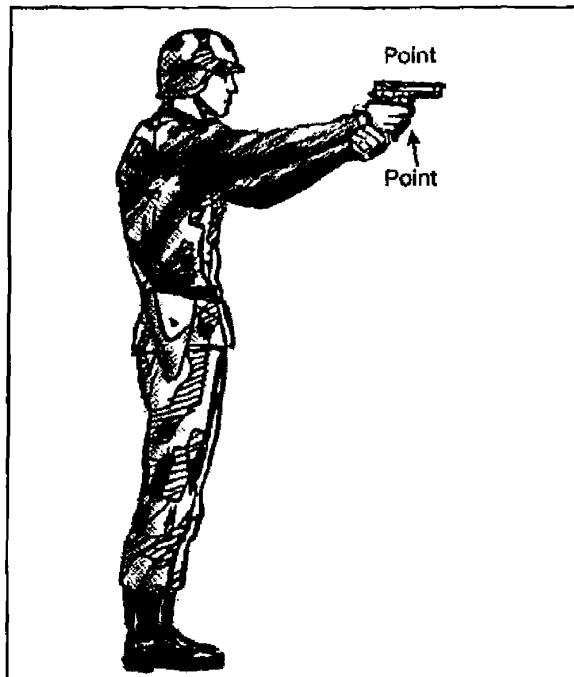

Figure 071-004-0006-9. Standing-without-support position
e. Crouching (figure 071-004-0006-10). This position is the same as the standing-without-support position, except you must bend your knees slightly. Balance by leaning forward at the waist.